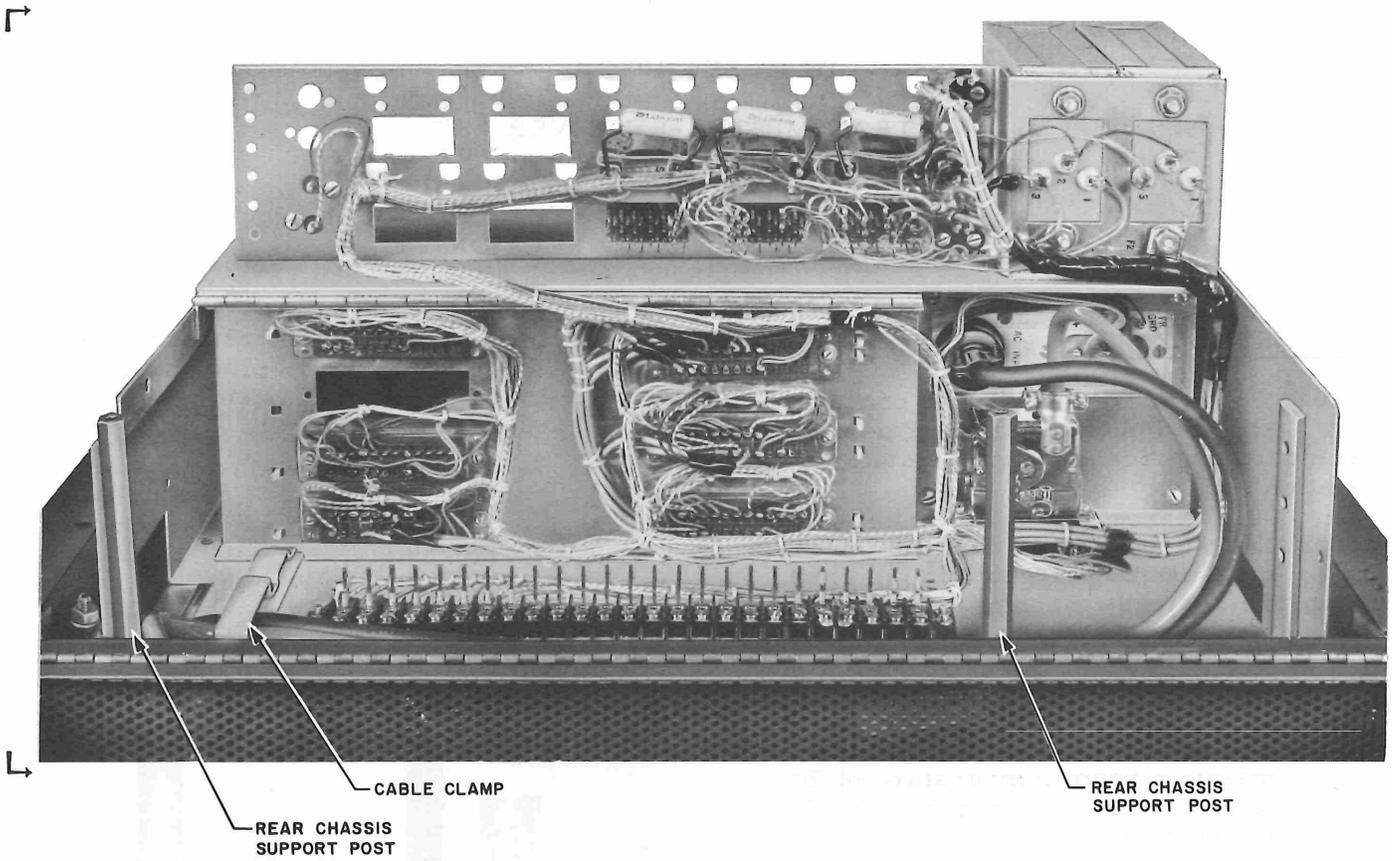

Fig. 2 - Data Set 103C (Rear Chassis Raised)
2.02 Remove the two rear chassis support screws and raise rear chassis on its hinge (Fig. 2).
through the rectangular hole at rear of set. Replace hood. Pass power plug and cord through the same hole. Fasten both cords under cord clamp as shown in Fig. 2. ↗ ↘